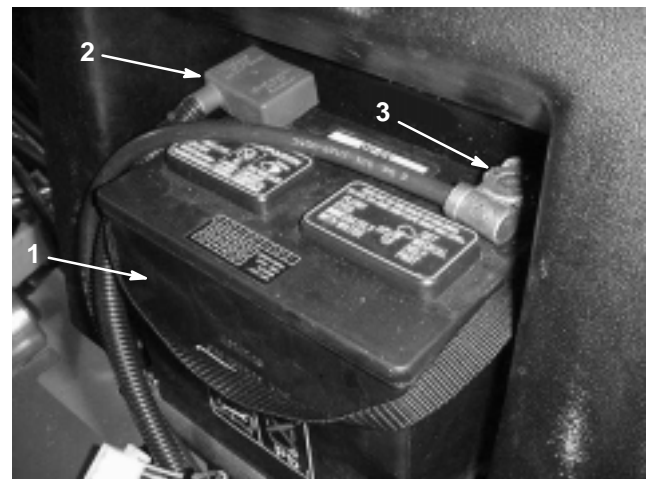

Figure 18
5. Install the positive cable (red) to the positive (+) terminal and the negative cable (black) to the negative (—) terminal of the battery (Fig. 18) and secure them with capscrews and nuts. Slide the rubber boot over the positive terminal to prevent a possible short from occurring.